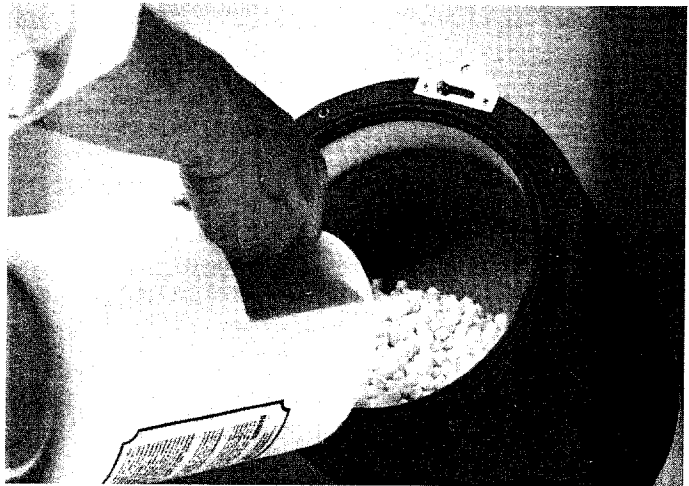
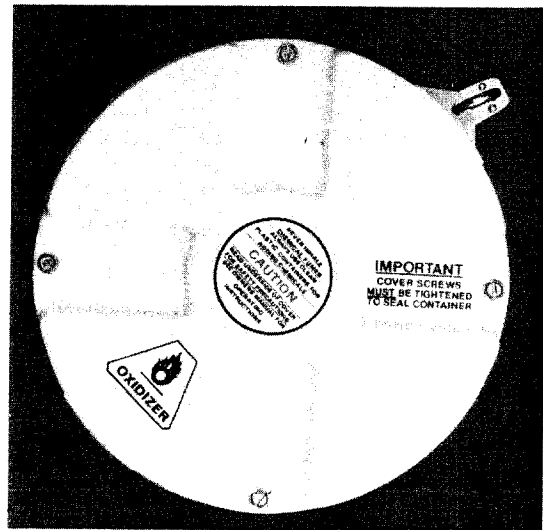

Figure 15
Figure 16
Rotate the cover counterclockwise approximately 1 inch and lift off. Add pellets to pellet container (Figure 15), reinstall cover and tighten the four container cover screws securely (Figure 16). Be sure cover gasket is intact and sealing properly. A maximum of two months' supply of pellets should be added at one time. Use only pellets manufactured by OSMONICS/Autotrol Corporation.
C. To prevent children and unauthorized persons from opening the pellet container, a padlock should be installed (Figure 16).